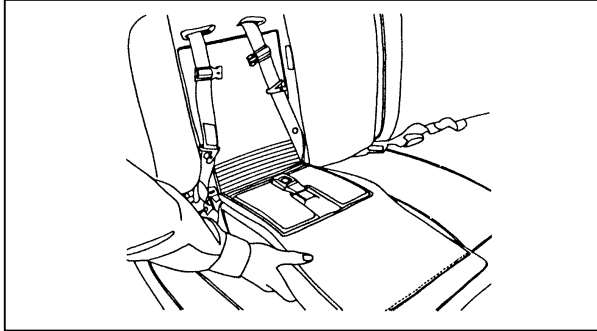

Figure 3: Opening the built-in child seat
3. Continue to unfold the child seat until it rests on the seat as shown in Figure 3.